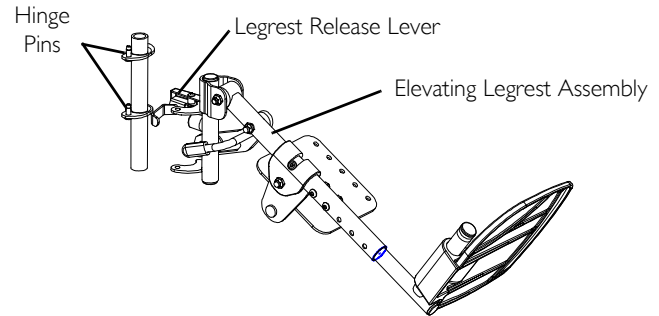

FIGURE 3 Installing/Removing Elevating Legrest Assembly
- i** For this procedure, refer to FIGURE 3 on page 37.